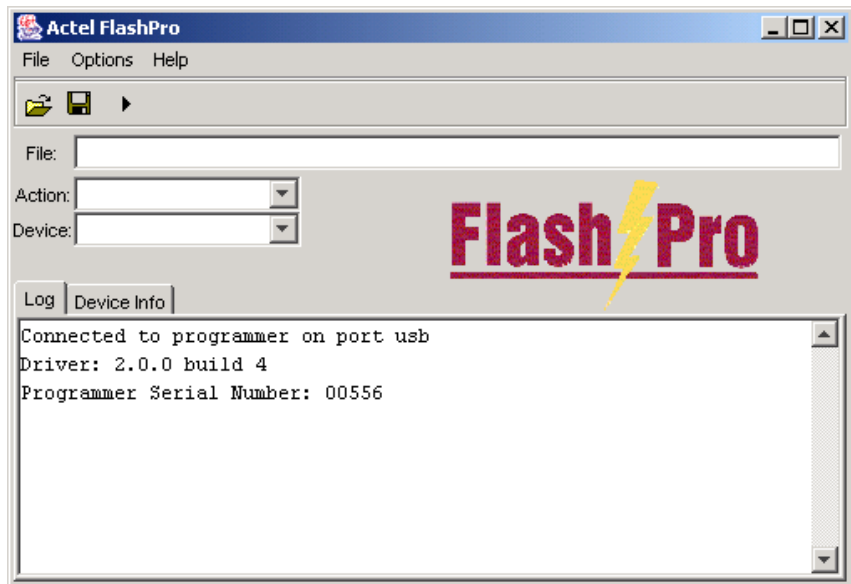

Figure 4-2. FlashPro: Successful Connection
5. Click **Connect**. A successful connect or any errors appears in the **Log** window, as shown in Figure 4-2. If you encounter failures, please refer to “Error Messages & Troubleshooting Tips” on page 89 for more information.